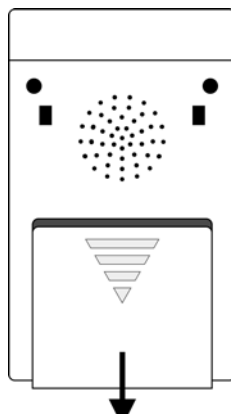

Figure 1: Battery compartment
- a) At the rear side there is a battery compartment, its cover can be pushed downwards so that the compartment opens ( fig. 1).